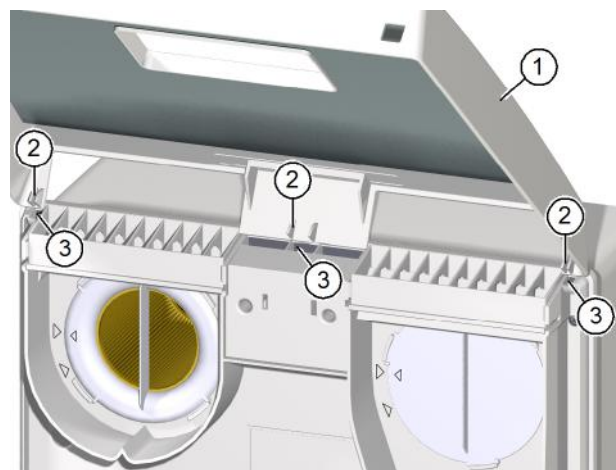

Fig. 16: Attach cover to ventilation unit
- ▶ Hold the cover (item 1 in Fig. 16) of the ventilation unit with both hands and tilt the top edge of the cover towards the ventilation unit.
- ▶ Insert the tabs (item 2 in Fig. 16) of the cover into the openings (item 3 in Fig. 16) on the top of the ventilation unit.